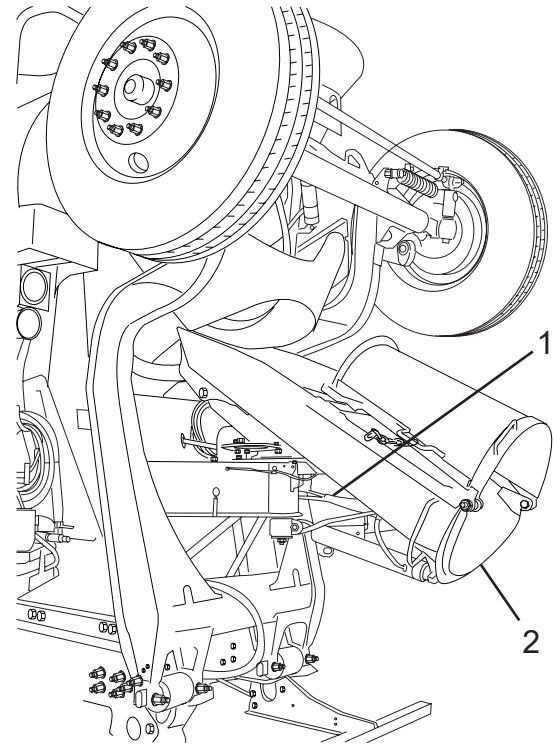

Figure 83
2. While holding the chute, pull down on the lever (Figure 83, Item 1) and move it to the right or left until the lever is seated in one of the lock positions.
3. Move the main chute (Figure 83, Item 2) to the desired position, and while holding the chute, move the lever to the center. Make sure the lever pin is fully seated into one of the holes in the chute plate before releasing the chute. Move the chute from side to side as needed to align the pin and hole.